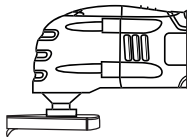

Fig.4
3. To remove the sandpaper, simply peel the sandpaper away from the hook & loop pad (Fig. 4).